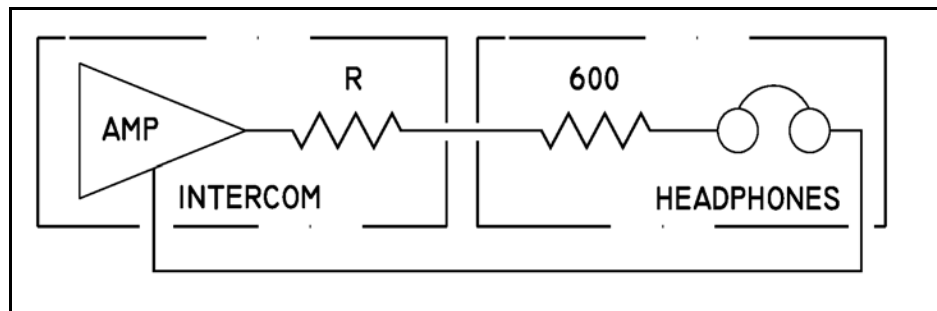

Figure 18-3. Audio Amplifier Internal Impedance
Okay, let's consider the case of an audio amplifier intended to deliver energy to a pair of headphones in Figure 18-3. The design goals for the amplifier are no different here than for the design of a battery. We'd like for the internal resistance (R) of the intercom to be as low as practical. Typically, a modern integrated circuit headphone amplifier will have an output impedance on the order of 5 ohms or less. This is an important consideration when we start to combine multiple audio sources into the headset system. The same rules apply whether the audio comes from a comm transceiver, an intercom amplifier, or a stall warning tone generator.